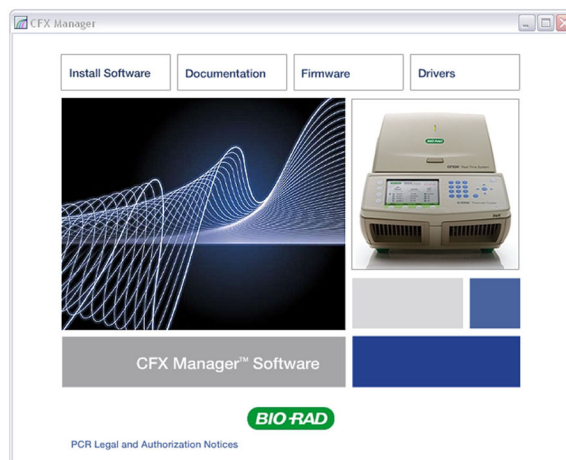

Figure 7. Software installation screen.
3. The software launch page should appear automatically. Double-click **Install Software** on the software launch page (Figure 7).